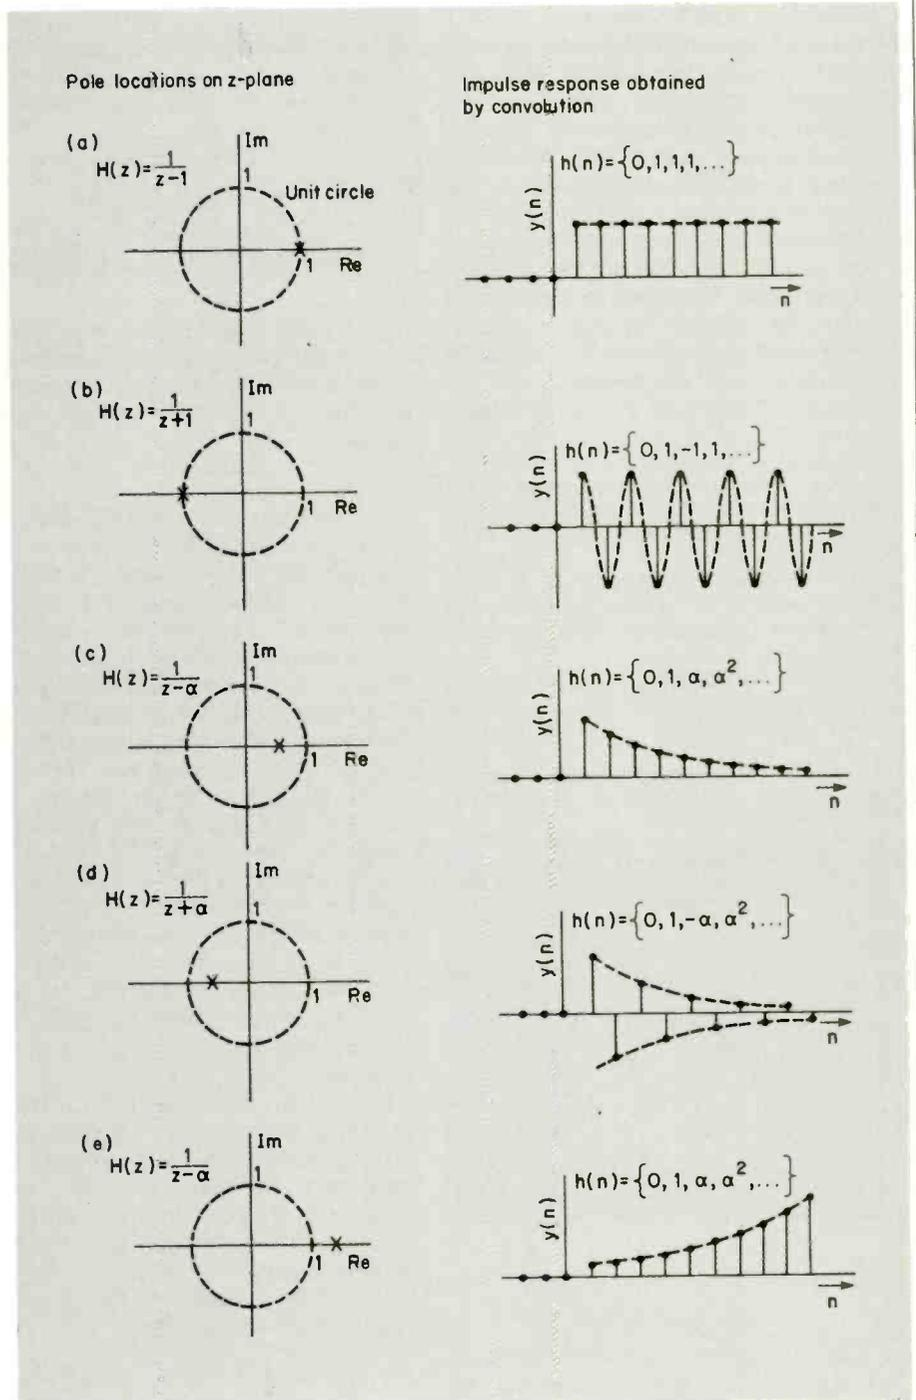

Fig.4.14. Pole locations on the z -plane in left column; impulse response obtained by convolution at right.
Change the locations of the poles, as shown in Fig. 4.14. To obtain the impulse response of each system simply
4.14(b). Locating the pole at $(\alpha, 0)$ ensures a first-order low-pass response, already examined in detail. A typical impulse response is shown in Fig. 4.14(c). Making α negative by situating the pole at $(-\alpha, 0)$ results in a first-order high-pass characteristic. The impulse response coefficients alternate in sign and oscillate at half the sampling frequency, as shown in Fig. 4.14(d). Pole(s) must be located within the unit circle for stability. Making α greater than unity produces an exponentially increasing impulse response and an unstable system, as in Fig. 4.14(e).